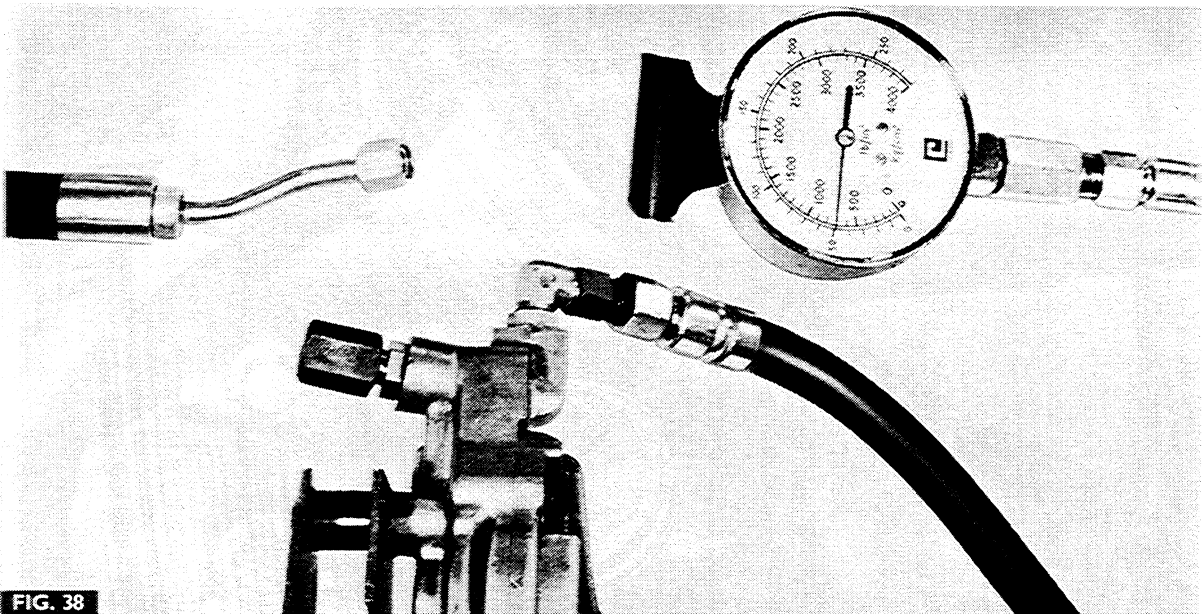

FIG. 38
2. Fig. 38 Disconnect the Multi-Power feed pipe from the union on the top front of the pump and fit the cap MF 260-4/4 in its place, as shown.